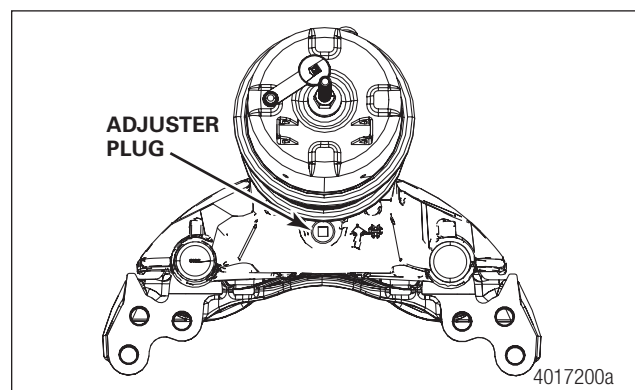

Figure 6.1 Adjuster Plug
2. Remove any loose dirt or debris from the plug area. Using a 3/8" drive ratchet, remove the adjuster plug. If needed, a 3/8" drive extension can be used to clear the air chamber. Figure 6.1.